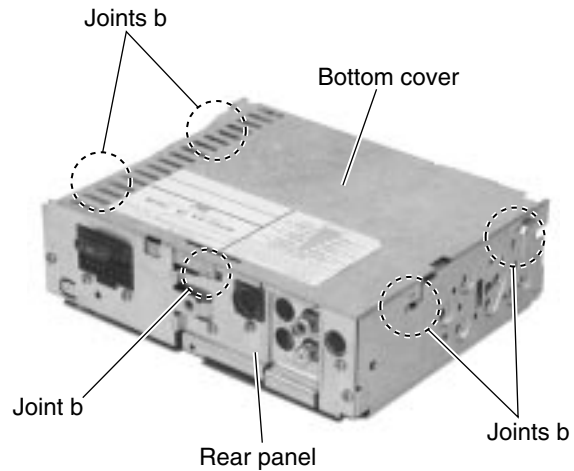

Fig.5
■ Removing the bottom cover (See Fig.5 and 6)
■ Removing the load arm (See Fig.5)